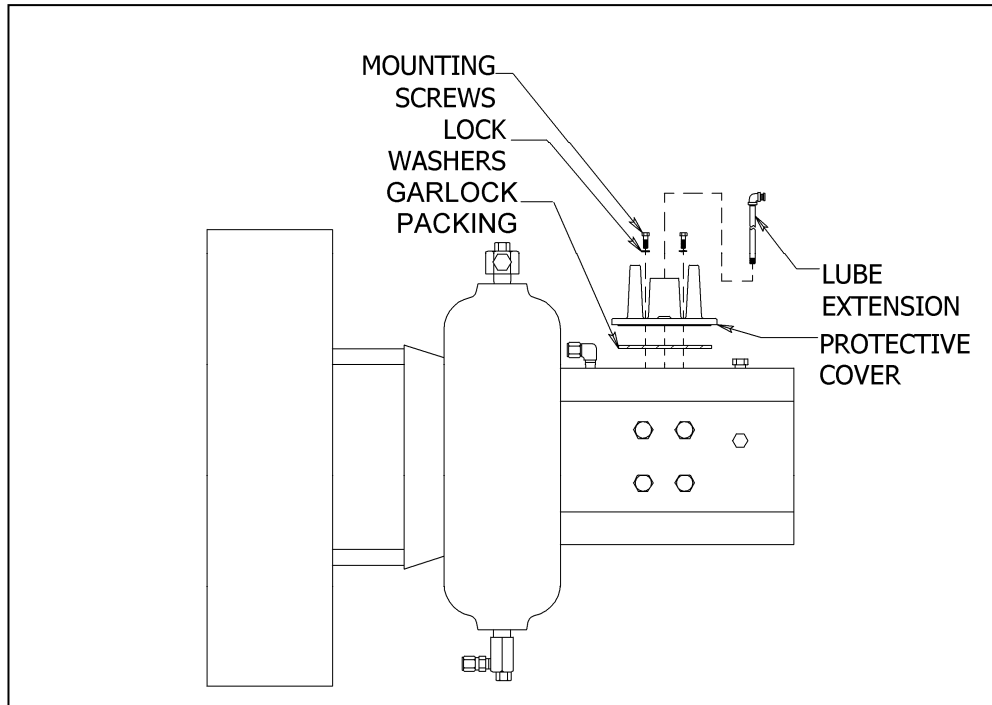

Figure 4: Installing New Protective Cover
6. Remove the existing Lube Extension, if applicable. (See Figure 4)